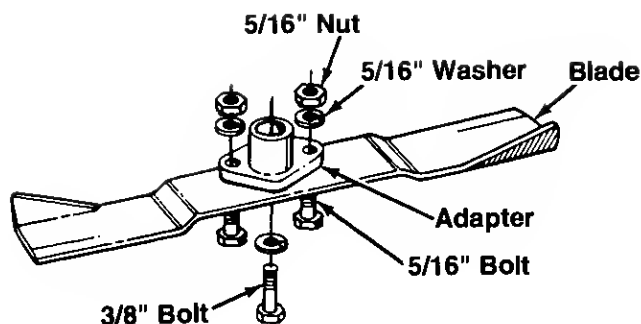

FIGURE 15.
1. Remove the large bolt and lock washer which holds the blade and adapter to the blade spindle. See figure 15.
3. If the blade or blade adapter needs replacing, remove the two small bolts, lock washers and nuts which hold the blade to the adapter. See figure 15.